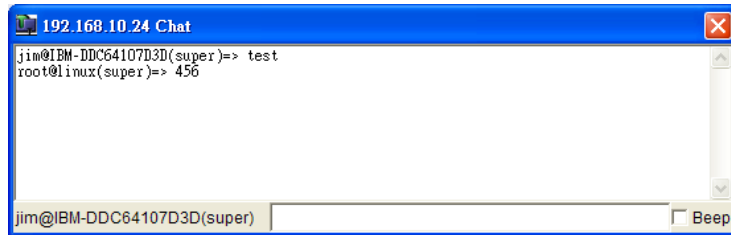

Figure 10-7 Chat Window
- **Chat Window:** This feature allows the user to chat with each other via the IPMI connection. Please refer to Figure 10-7.